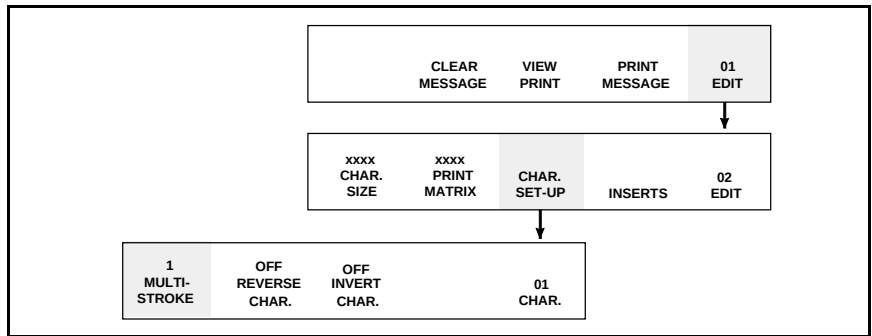

Figure 6-9. Accessing Frame <01 CHAR>
2. Begin in Frame <01 CHAR>. Refer to Figure 6-9.